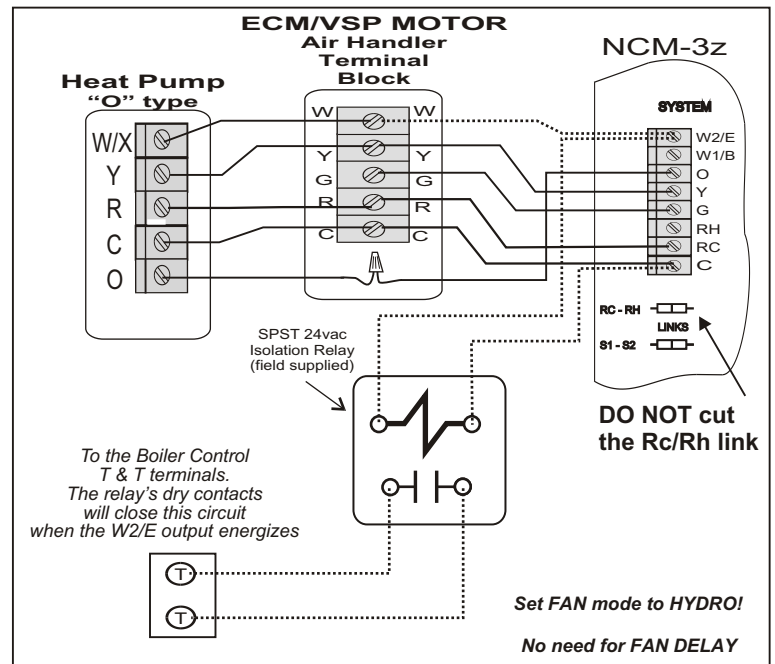

Figure 18
* Figure 18 is for Heat Pump applications where the Hydronic coil is the auxiliary heat source. The isolation relay is required (cannot use the Rc/Rh isolation) because the reversing valve must detect the O/B signal from the Air Handler’s 24v power, not the Boiler’s 24v power.